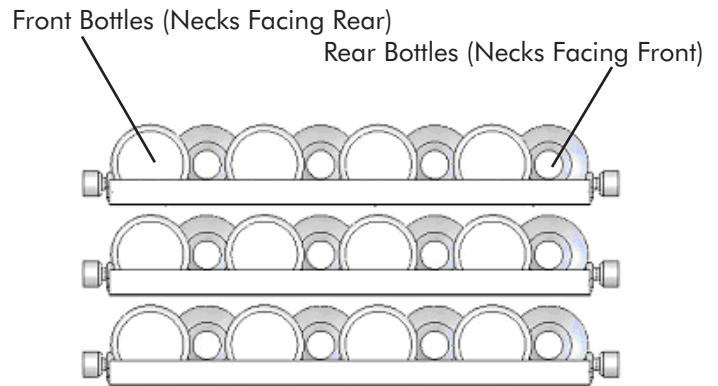

Figure 14
The four (4) pull-out shelves each hold eight (8) bottles. See Figure 14 for typical wine bottle spacing. Tall bottles should not be loaded on the bottom rack because they may prevent the door from closing. The display shelf at the top of the cabinet holds seven bottles. Also, there is a fixed, wooden, bottle cradle in the bottom, step section of the cabinet. Six (6) bottles of wine may be stored there.